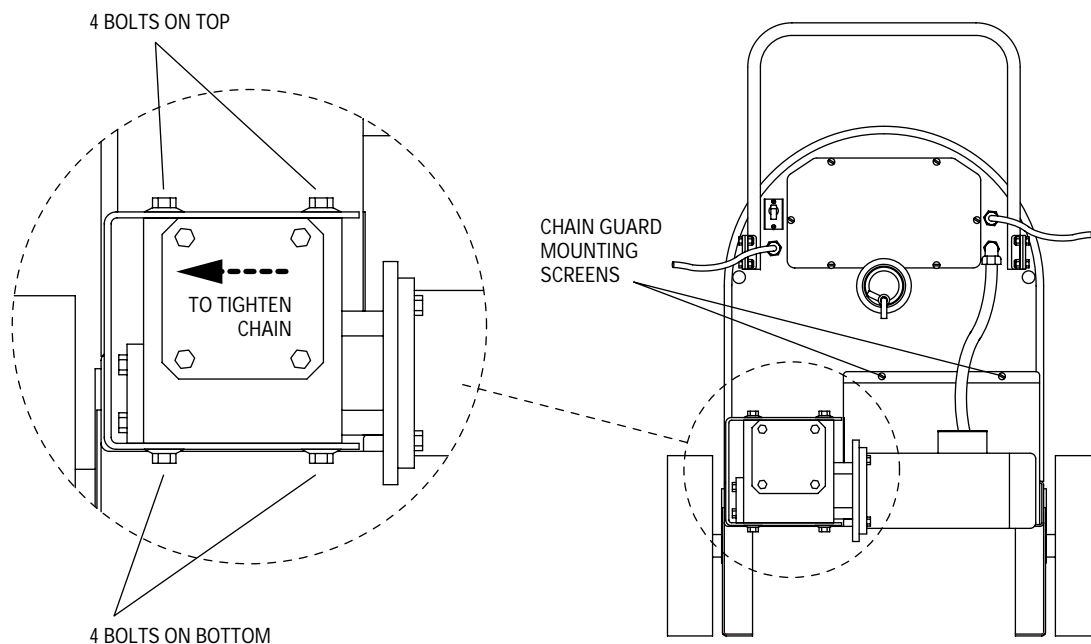

Figure 17
- Check chain tension after an initial break-in period of 2 - 3 hours of use and tighten per the instructions below. See Figure 17. Thereafter, inspect monthly.